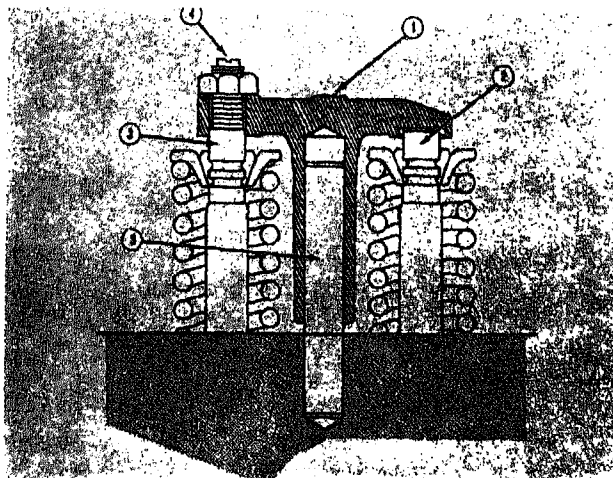

Fig. 14-1-43. Alignment of crosshead stem and guide
1. Install proper (right or left) crossheads on crosshead guides with adjusting screws resting on valves farthest from push tubes (3, Fig. 14-1-43.)
3. Use light finger pressure on rocker lever contact surface (1, Fig. 14-1-43) to hold crosshead in contact with valve stem nearest push tubes (2, Fig. 14-1-43); turn crosshead adjusting screw (4, Fig. 14-1-43) down until it contacts valve stem beneath it.
4. If new crossheads and guides (5, Fig. 14-1-43) are used, advance adjusting screws one-third of one hex (20 degrees) to straighten valve stems on their guides and to compensate for slack in threads. When worn crossheads and guides are used, it may be necessary to advance adjusting screws approximately one-half of one hex.